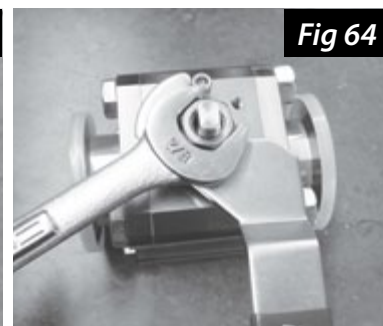

Fig 64
2. Next, remove the valve handle by removing the top stem nut with the 7/8" wrench. Set the nut aside for later use (Fig 64). **Tip: With one hand, hold the valve handle firmly and with the other hand use the wrench to loosen the nut.**